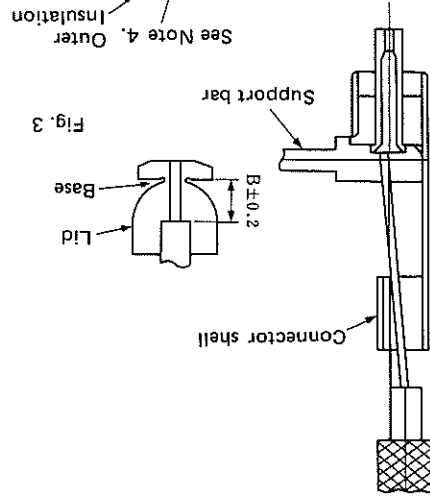

Fig. 3
(1) Pass the cable center conductor through the connector shell, as shown in Figure 3. Then insert the center conductor into the hole in the male terminal while making sure that the connector shell passes between the outer conductor and the cable insulation. Insertion will be completed when the cable insulation reaches the section of dimension "B" specified in the table below.